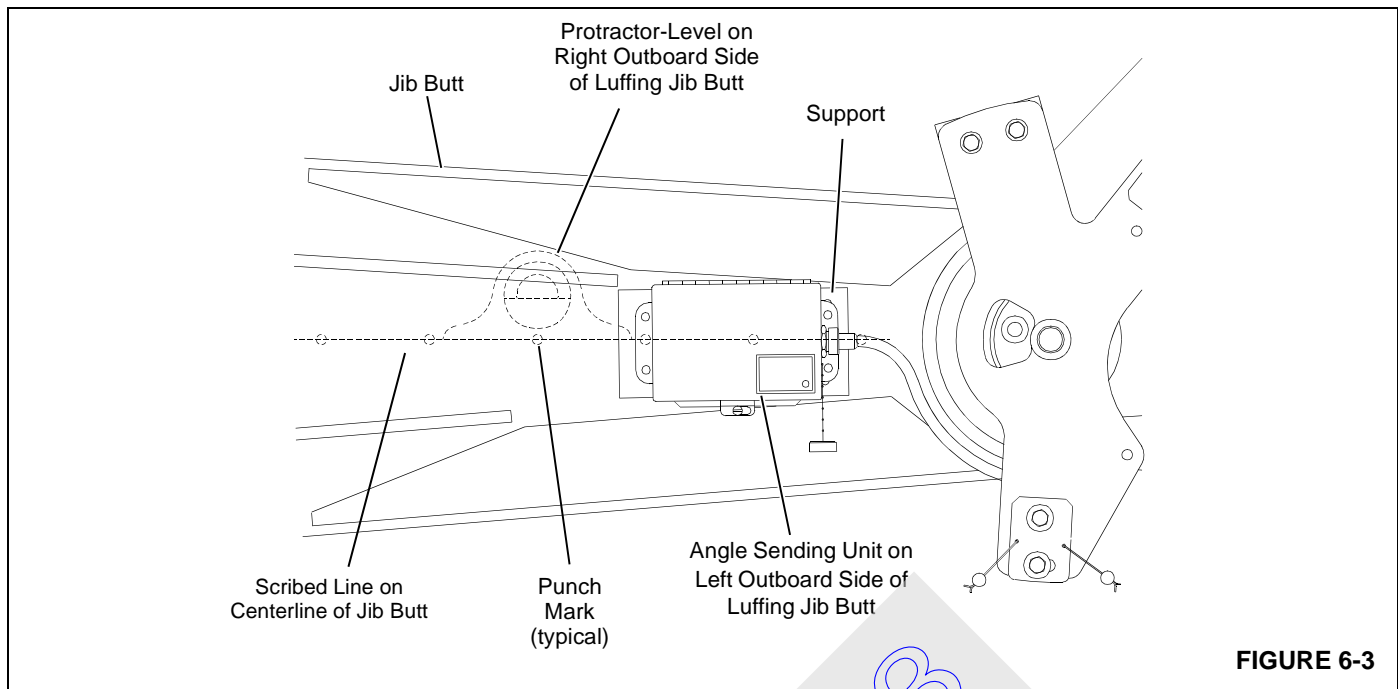

FIGURE 6-3
See Figure 6-3 for following procedure.
2. Scribe a line through punch marks on centerline of jib butt as shown in Figure 6-3.